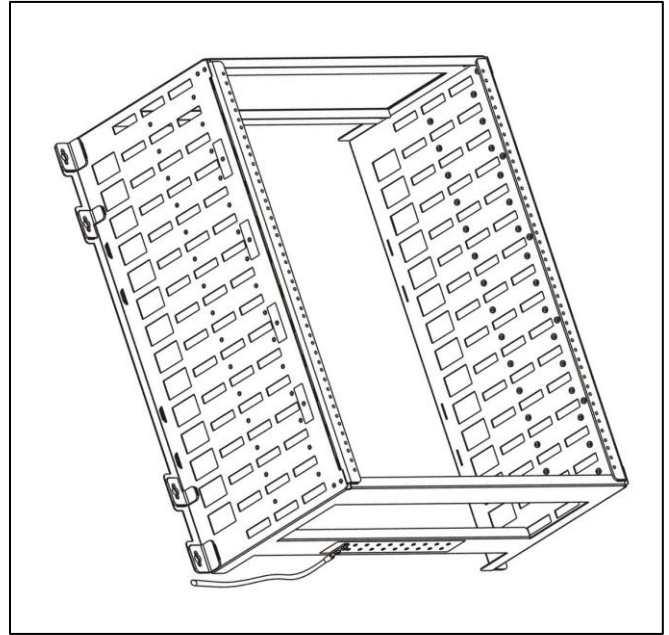

Figure 7. Frame grounding example
- ④ Before attempting to fasten the mounting frame to the wall, insert a screw into the top pilot hole on either the left or right side. Partially thread the screw into the hole, leaving the screw head approximately 1/4" from the surface.
- ⑤ Hold the mounting frame against the wall while resting the cutout of the bracket on the installed screw. Align the other nine mounting holes and install a screw in each hole. Tighten all ten (10) screws securely.
- ① Locate the ten (10) pairs of pre-installed grounding screws with lock washers on the crossbar of the frame. The grounding screws are 10-32 x 3/8" on 5/8" centers.
- ② Install a dual ground lug (customer provided) with holes on 5/8" centers beneath the included screws and washers on one pair of grounding holes. Tighten the screws to fasten the lug to the mounting frame. The example in Figure 7 illustrates the frame positioned with grounding screws facing downward.
- ③ Connect a ground wire of appropriate gauge to the ground lug and attach the other end of the wire to a bonded ground point, per local procedures for network equipment.